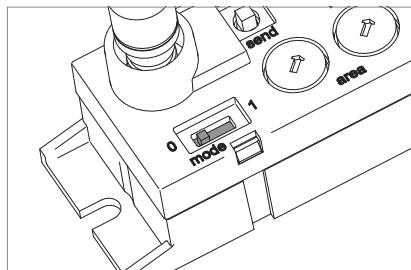

Fig. 14: Luminaire communication disabled.
- ▶ Slide the "mode" slide switch to position **0**, see Fig. 14.